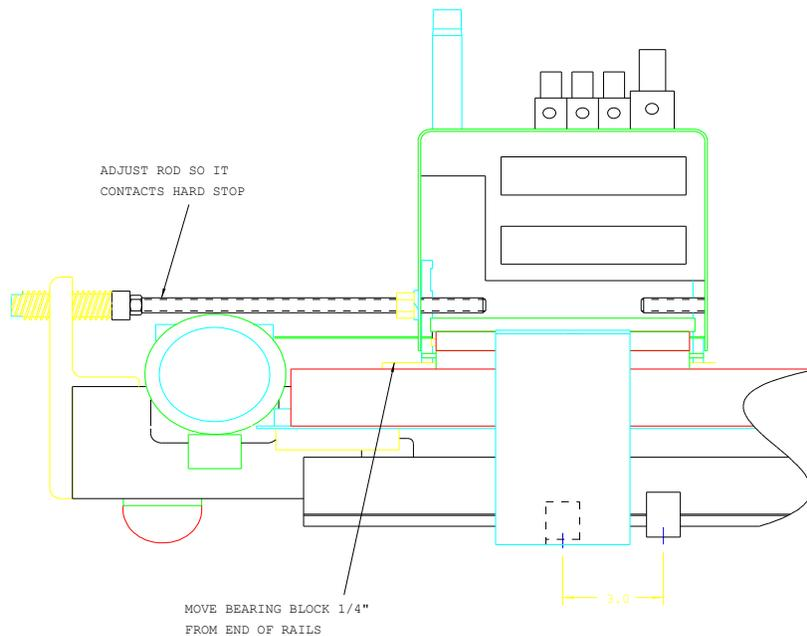

Figure 4.3.1.
4. Position carriage bearing block approximately 1/4" from end of bearing rail as shown in Figure 4.3.1. Adjust mechanical stop bolt on carriage up against hard stop and secure.
5. While the carriage is located at the hard stop, position the Home switch 3.0" away from the hard stop end as shown in Figure 4.3.1.